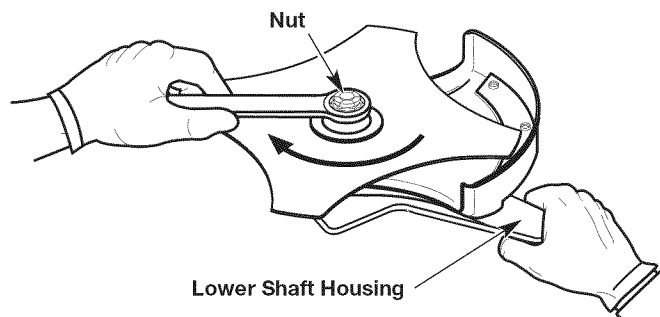

Fig. 15
3. Hold the locking rod in place by grasping the other end against the lower shaft housing (Fig. 15).
4. While holding the locking rod in place, unscrew the nut by turning it clockwise with a 5/8 inch closed-end or socket wrench (Fig. 15).